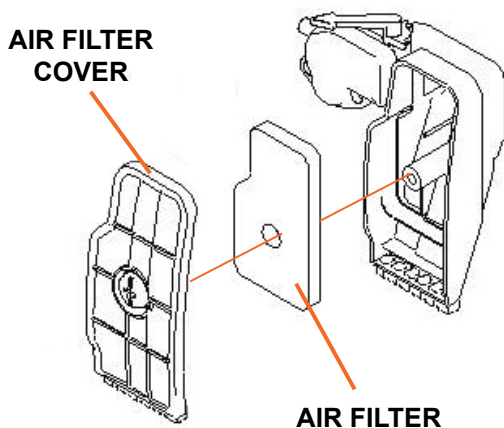

Figure 7
2. Remove the large screw that holds the air filter cover in place then remove the air filter (see Figure 7).